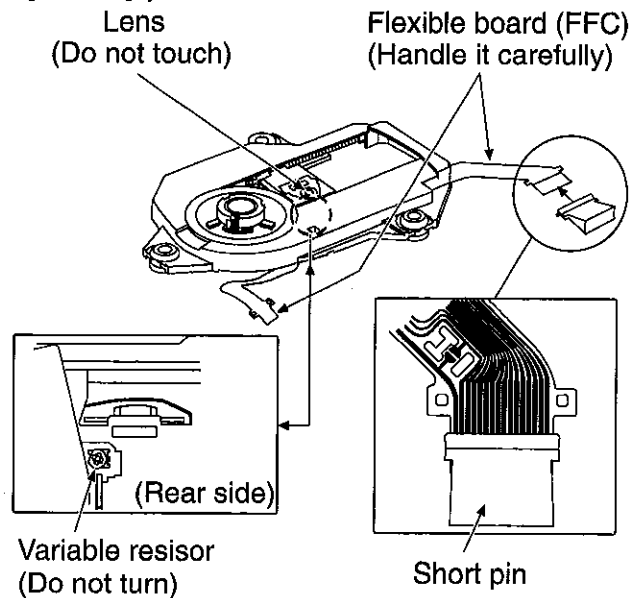

Fig. 1
4. Do not turn the pre-set variable resistor (for adjustment of the laser power); it has been adjusted at the factory. (as shown in Fig. 1)